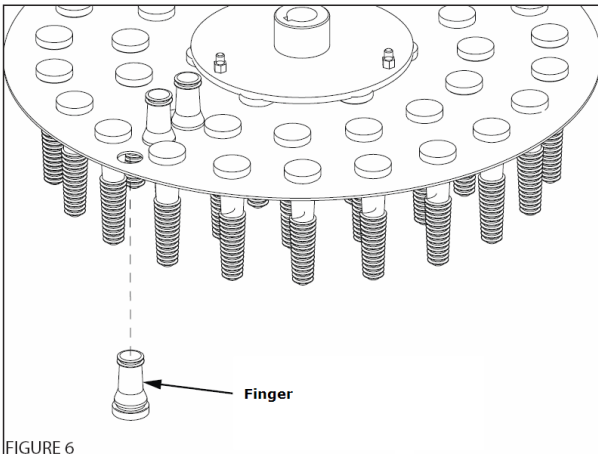

FIGURE 6
- Remove the spring trough and mount the finger on the finger plate (**FIGURE 6**)